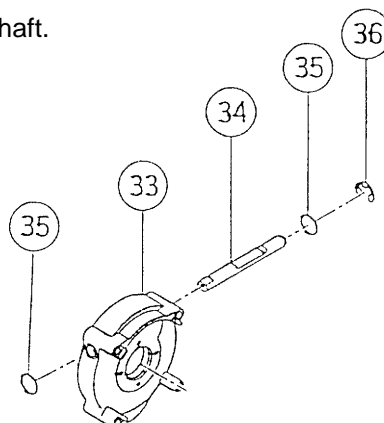

Fig. 2
(2) Disassembly of the Gear Cover **[31]** (Figs. 2 to 4)